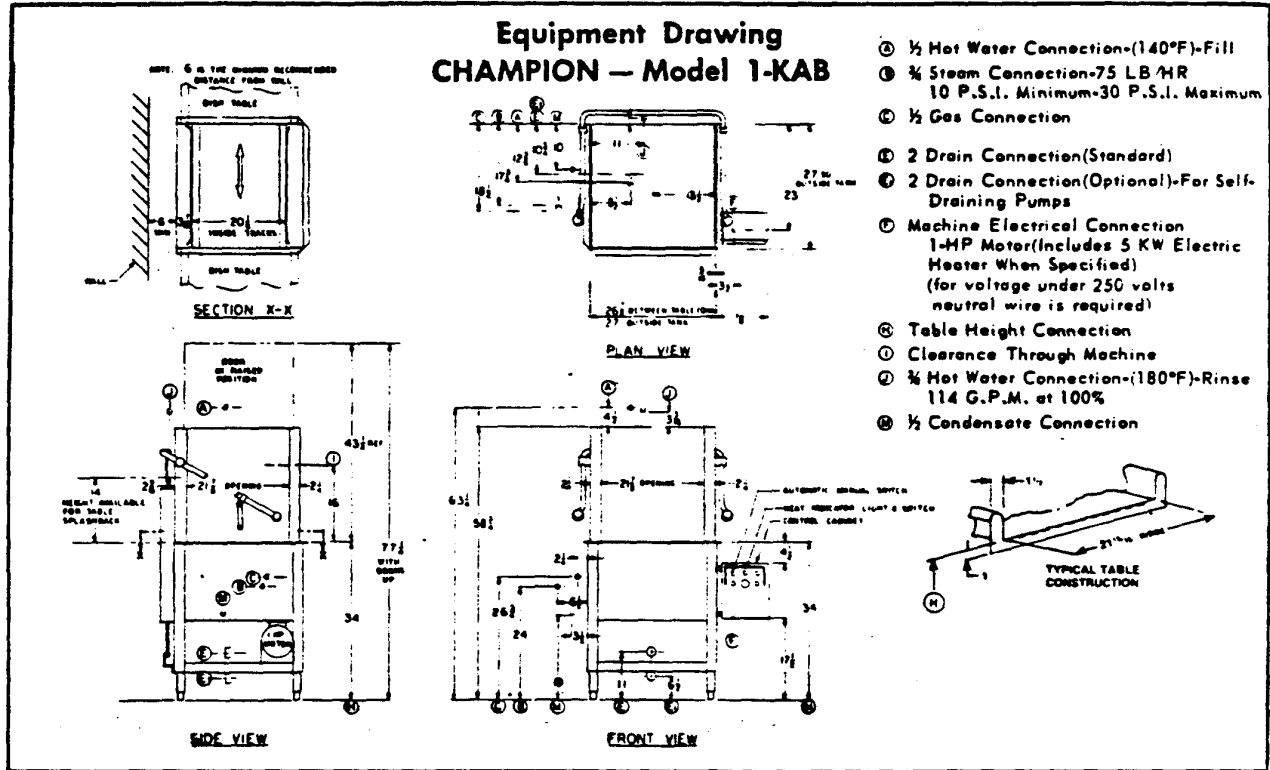

Figure 1
4. The electrician should check the electrical characteristics labeled on the machine against the power supply prior to connecting to the incoming service at a **fused** disconnect switch. See Figure 1 or 2 for the appropriate model.
5. The plumber should make all connections for water, steam and/or gas — if your dishwasher is so equipped — as well as the drain to the sewer line. (See Figure 1 or 2 for the appropriate model).